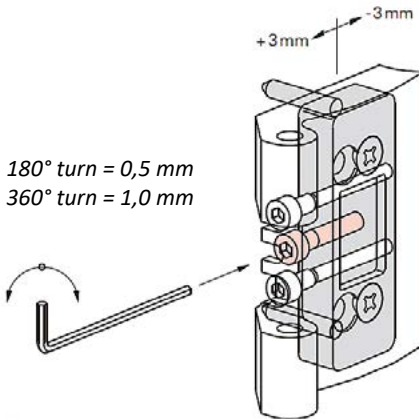

Figure 11.6. Folding window hinge, adjustment
- Turn the middle screw (Figure 11.6)